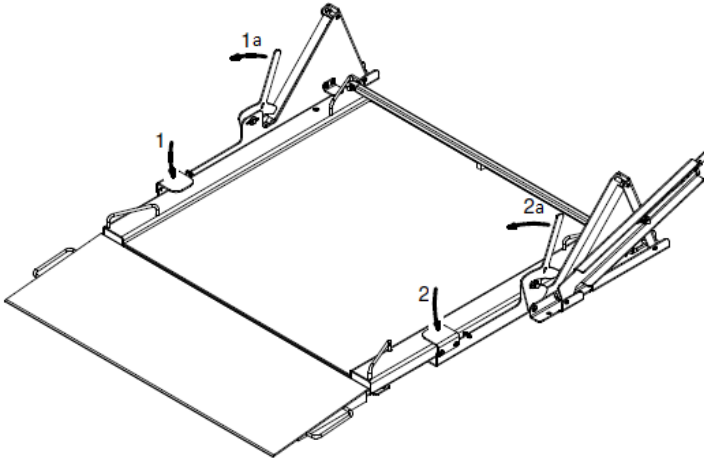

Fig.18.
1. Press the lifting mechanism (1), release the lock (1a) while still pressing the lifting mechanism (Figure 18).
2. Press the lifting mechanism (2), release the lock (2a) while still pressing the lifting mechanism (Figure 18).